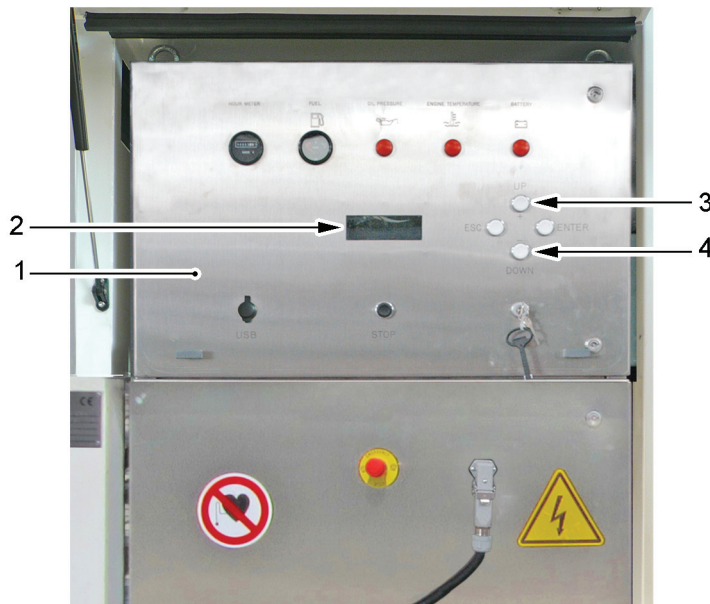

Figure 6.20 - Pushbuttons UP + and DOWN - for setting the generator output power
In order to set the heating power of the generator press, for at least 3 seconds, one of pushbuttons UP + (see Figure 6.20/3) or DOWN - (4) situated on the command and control panel (1) until entering the following page.